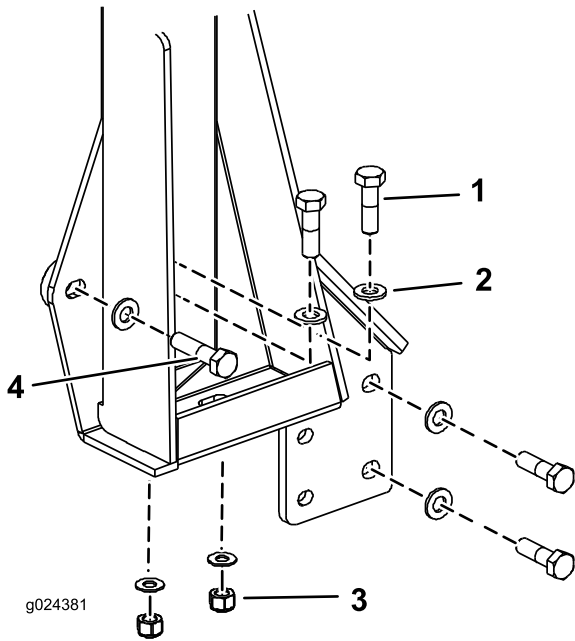

Figure 4
11. Use the following chart and Figure 4 to determine the size and location of the fasteners used to secure each side of the lower ROPS support to the traction unit. Torque the bolts to 75 N-m (55 ft/lbs).